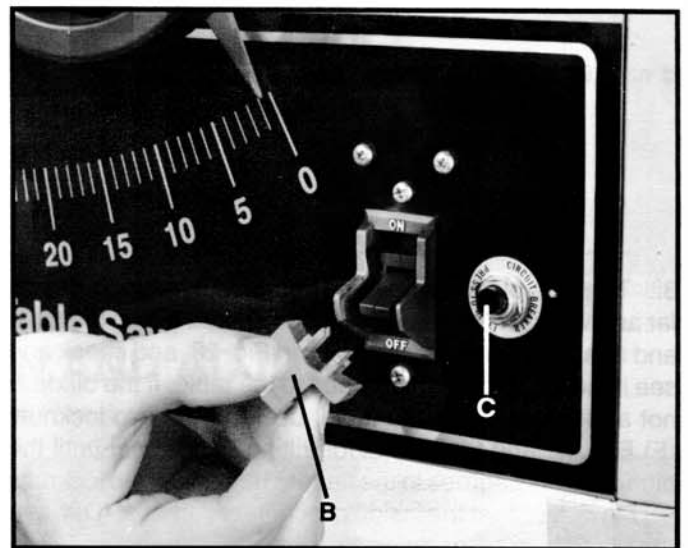

Fig. 24
We suggest that when the saw is not in use, the switch be locked in the "OFF" position. This can be done by grasping the switch toggle (B) and pulling it out of the switch, as shown in Fig. 24. With the switch toggle (B) removed the switch will not operate. However, should the switch toggle be removed while the saw is running, it can be turned "OFF" once, but cannot be restarted without inserting the switch toggle (B).
Your saw is equipped with a reset overload relay button (C) Fig. 24. If the motor shuts off or fails to start due to overloading (cutting stock too fast, using a dull blade, using the saw beyond its capacity, etc.) or low voltage, turn the switch to the "OFF" position, let the motor cool three to five minutes and push the reset button (C), which will reset the overload device. The motor can then be turned on again in the usual manner.